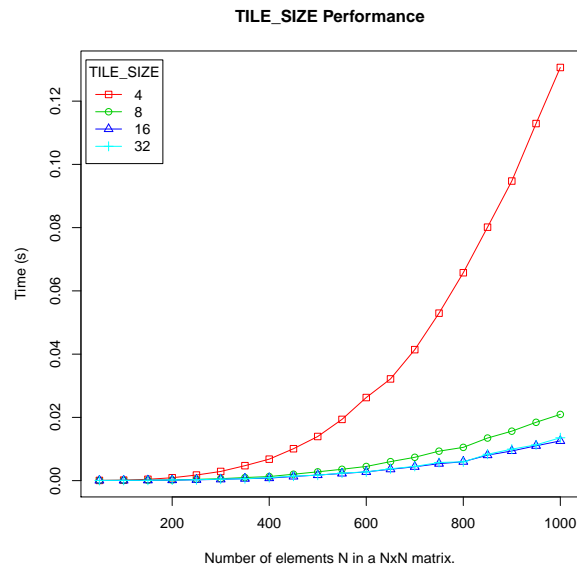
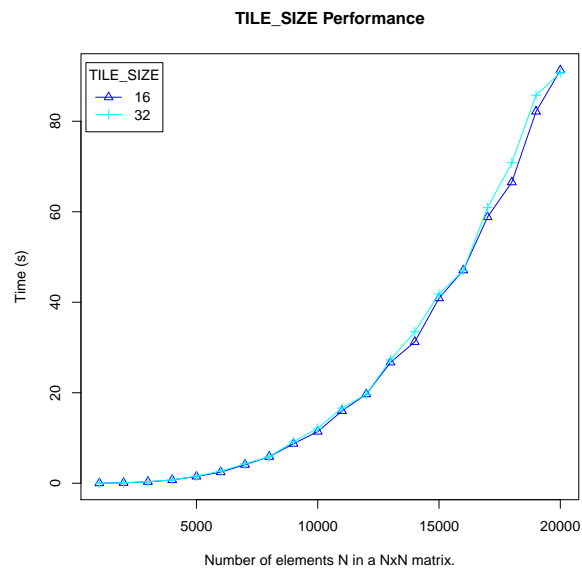

Figure 8: Performance using different values of TILE_SIZE.
Figure 9: Performance of TILE_SIZE 16 y 32 with more data.
Figure 8 shows the performance for different values of `TILE.SIZE`. The general trend shows that the larger the size of the tile the better performance. However, there is not significant difference between sizes 16 and 32. Figure 9 shows an additional test with bigger values of `N` for just these two values. It seems there is not an increase in performance using a size of 32 over 16. That is explained by the fact that a `TILE.SIZE` equal to 32 allows 1024 threads per block, but the hardware limitation for each Streaming Multiprocessor (SM) is up to 1536 threads [2]. So, under this configuration just one block (1024 threads) is actively executing.